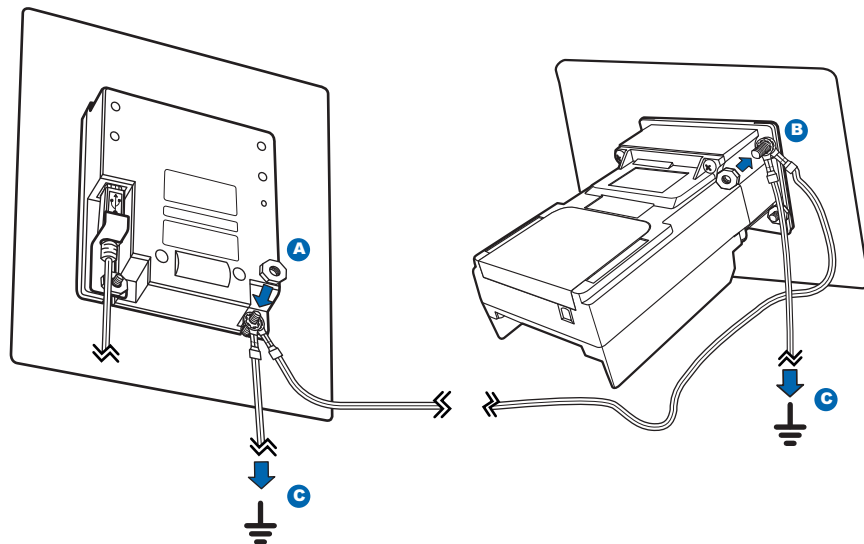

Figure 11 Grounding the UX300 and PIN Pad Units
- 1 Remove a nut, exposing a stud from the back of the PIN pad unit (do not use the one from the cable retainer). See (A) in Figure 11.
- 2 Attach the grounding cable to the UX300 (P/N WIR159-302-01-A) and the grounding cable to a ground installation. See (A) in Figure 11.
- 5 On the UX300 unit stud, attach the other end of the grounding cable from the PIN pad (P/N WIR159-302-01-A) and the grounding cable to a ground installation (P/N WIR159-302-02-A). See (B) in Figure 11.
- 7 Connect the other end of both ground installation cables to the nearest ground installations, to complete the grounding of the UX300 and PIN pad units. See (C) in Figure 11.